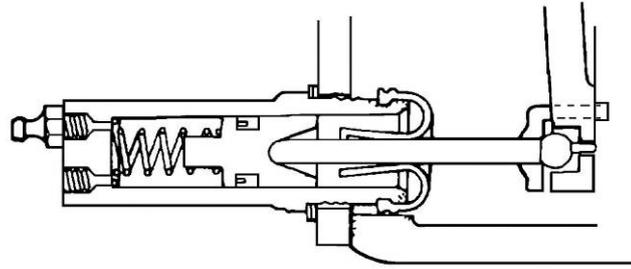

Figure 11 Slave Cylinder
- k. Install the slave cylinder into the transmission bell housing, ensuring that the push rod is inserted into the dust cover and the bleed screw is uppermost (Figure 11).